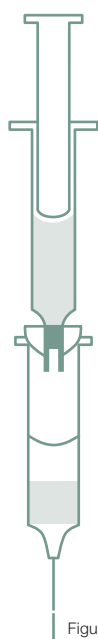

Figure 1
- For a small number of samples use a syringe and an adapter to "push" the solvents through the column by positive pressure using the adapters that are listed on page 18. See **Figure 1**.